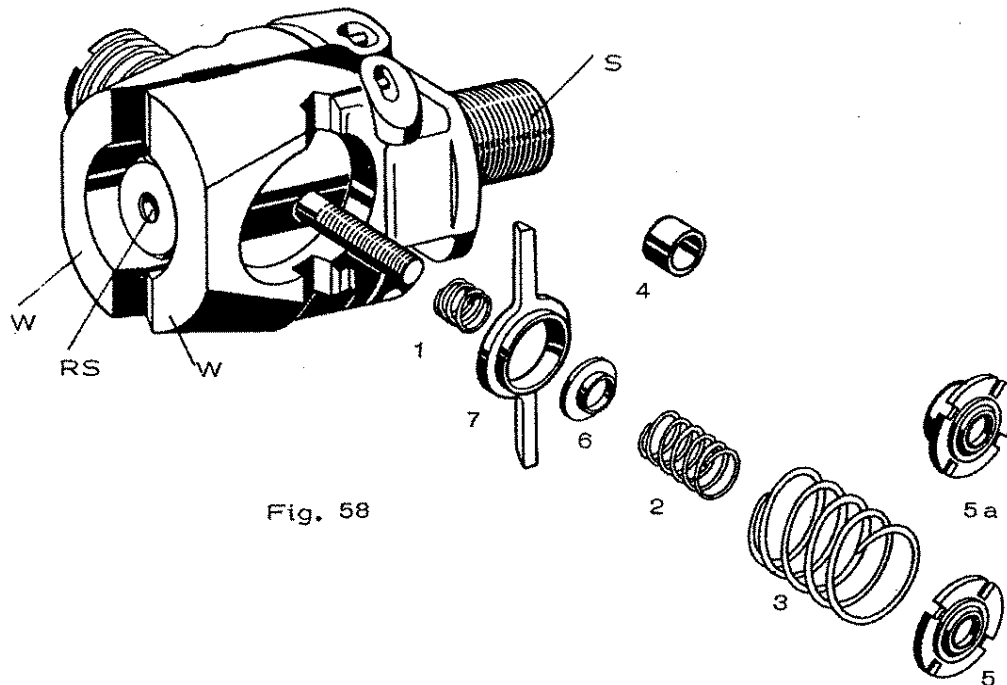

Fig. 58
* These figures refer to Fig. 58, page 43